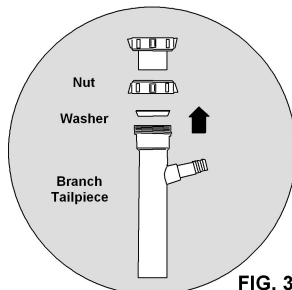

FIG. 3
4. Install branch tailpiece of ET113-001 drain line adapter to the end of flanged tailpiece under the sink using provided washer and wing nut. (See Fig. 3)